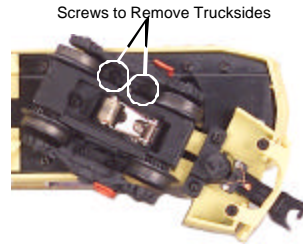

Figure 7. Locations of Truckside Mounting Screws
First, remove the truck sides from the truck block. To do this, turn your engine upside down. If there are visible Phillips screw heads between the truck frame and truck block (see Fig. 7), go to step A. If not, go to step B.
B. Remove the trucks from the chassis and the truck sides from the trucks in order to slip the new tire over the grooved drive wheel. See Fig. 7 for which screws you must remove to do this.